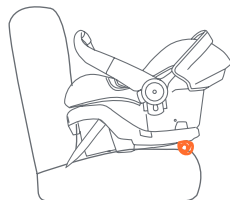

Fig. 53-2
- If the Safety Seat needs elevation on the rear of the of the safety, place a tightly rolled towel or pool noodle, under the rear of the base, until the level indicator shows the level line parallel with the ground for occupants greater than 22 lbs to 35lbs (Fig 53-2). Re-tighten the vehicle seat belt as instructed in section **Securing the Safety Seat or Base in the Vehicle Page 39.**